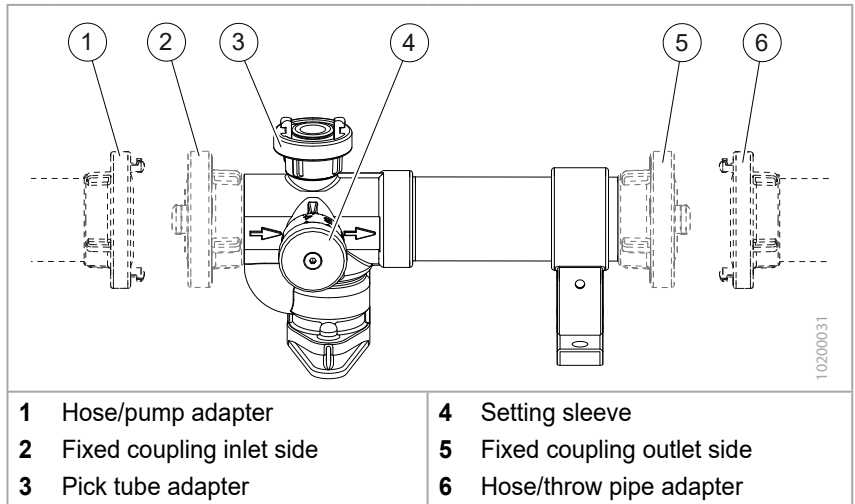

Fig. 2 Handling
1. By hand or with the use of a coupling spanner, connect the adapter of the pump-side hose (Fig. 2/1) to the fixed coupling on the inlet side (Fig. 2/2).
2. By hand or with the use of a coupling spanner, connect the adapter of the tube-side hose (Fig. 2/6) to the fixed coupling on the outlet side (Fig. 2/5).
3. Adjust the setting sleeve (Fig. 2/4) to the required admixing rate.
4. Connect the pick tube to the inductor (Fig. 2/3) and insert it into the foam mixing container.